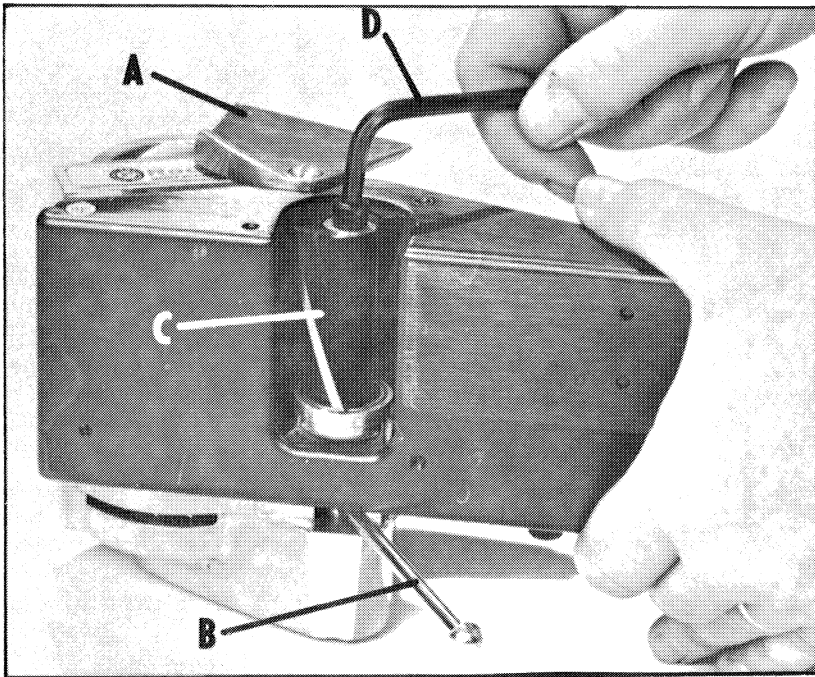

Fig. 2
1. Swing cutter guard (A) up, as shown in Fig. 2.
2. Insert cutter shaft lock pin (B) in cutter shaft, as shown in Fig. 2.
3. Slip cutter (C) on cutter shaft, making certain counterboard end of cutter, is out or away from plane, as shown in Fig. 2.
5. Insert wrench (D) Fig. 2, in screw head and turn counterclockwise. The cutter screw has a left hand thread. Tighten screw firmly.
6. Swing cutter guard (A) Fig. 2, down to close cutter opening and prevent bodily contact with the outer end of the cutter. Tighten screw on cutter guard firmly.
7. Remove shaft lock pin (B) Fig. 2.